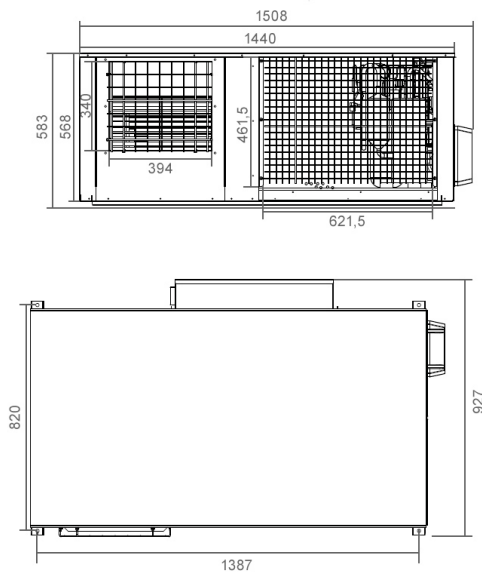

Fig. 3-1 Dimension of Air-conditioning Unit
1) Fig. 3-1 is applicable for models of GIA-CEN-10KOMP, GIA-CEN-14KOMP, GIA-CEN-16KOMP